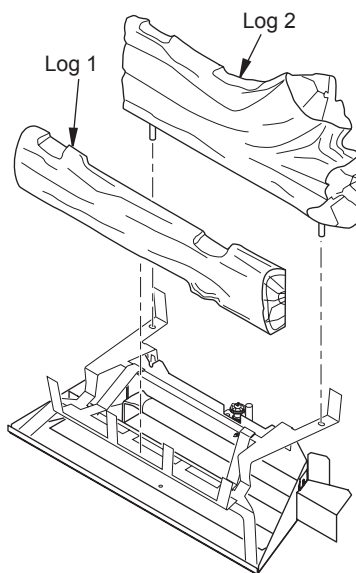

Figure 23 - Installing Logs 1 and 2
1. Place front log (log 1) onto front of grate sliding log all the way forward against grate fingers (see Figure 23).
2. Insert pegs on bottom of rear log (log 2) into holes in rear of grate (see Figure 23).